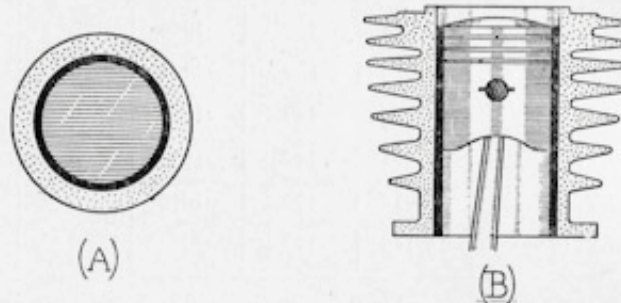

FIG. 8. SHOWING GENERAL PRINCIPLE OF LUBRICATION
**What Lubrication Is For.** The fundamental principle of lubrication is that to avoid friction and heat, or in other words wear and tear, between close-fitting moving surfaces it is imperative to maintain an oil or grease film between them which does in effect actually keep them apart. The idea is made clear in Fig. 8. On a motor-cycle the oil film has a thickness varying from about .0002 in. to .0008 in. and the duty of the rider in regard to engine lubrication is to see that: (a) good quality oil is used, (b) a sufficient quantity of oil is kept in circulation, (c) the oil is kept clean and free from dilution (petrol gradually creeps past the piston rings).